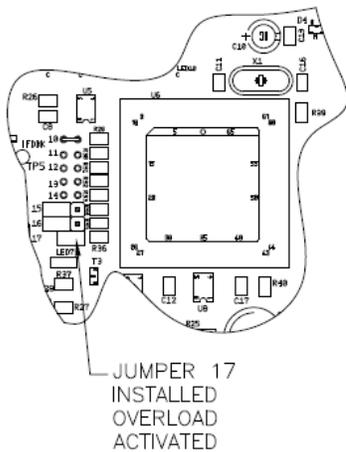

Figure 20: Jumper Location - Overload
2. Place the jumper across the two (2) pins at location 17 on the main PC board (See Figure 20).